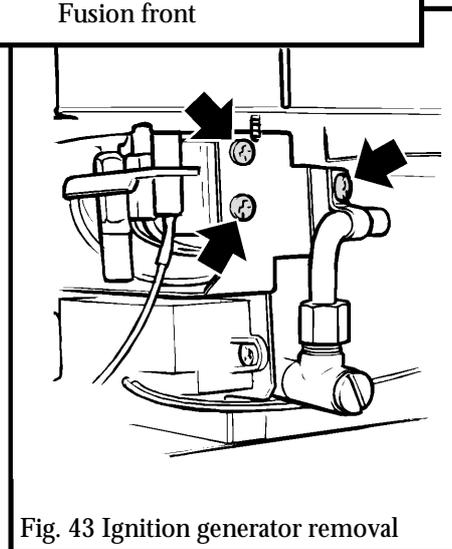

Fig. 43 Ignition generator removal
13.6.3 Remove the two screws securing the ignition generator bracket to the burner unit, the screw holding the inlet pipe clamp and the screw attaching the bracket to the bottom of the convection box (See figure 43). Carefully lift the bracket (with the ignition generator and leads) clear.